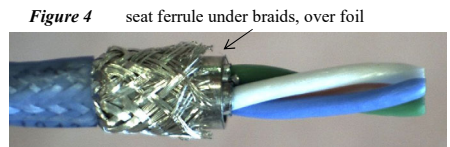

Figure 4
- 4) Install the inner ferrule, over the wires, over the foil, under the wire braids. Seat firmly down to Cut B, under the braids (Fig. 4).